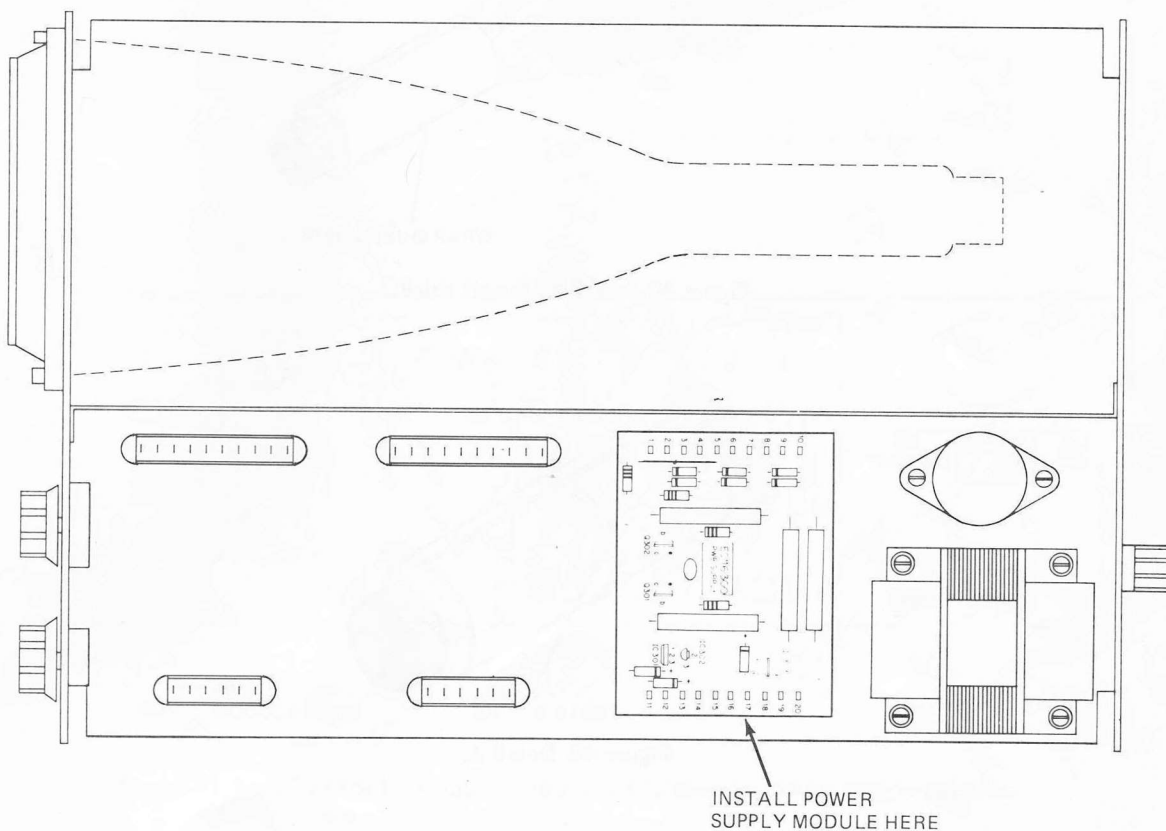

Figure 39. Installing the power supply module.
(1) Install the power supply module as shown in Fig.39. The circuit module stand-offs are arranged such that each module can only be installed in one position on the chassis. If these stand-offs are broken or removed, a module could be incorrectly installed and damaged. Note, for these tests you should have *only* the power module installed . . ()
(2) Before applying power, check the resistance between terminals 312, 313, 318, 319, 320, and ground. You should read higher than zero ohms at each terminal. A measurement of zero ohms indicates a short to ground. Do not operate the scope if this condition exists, as you could damage